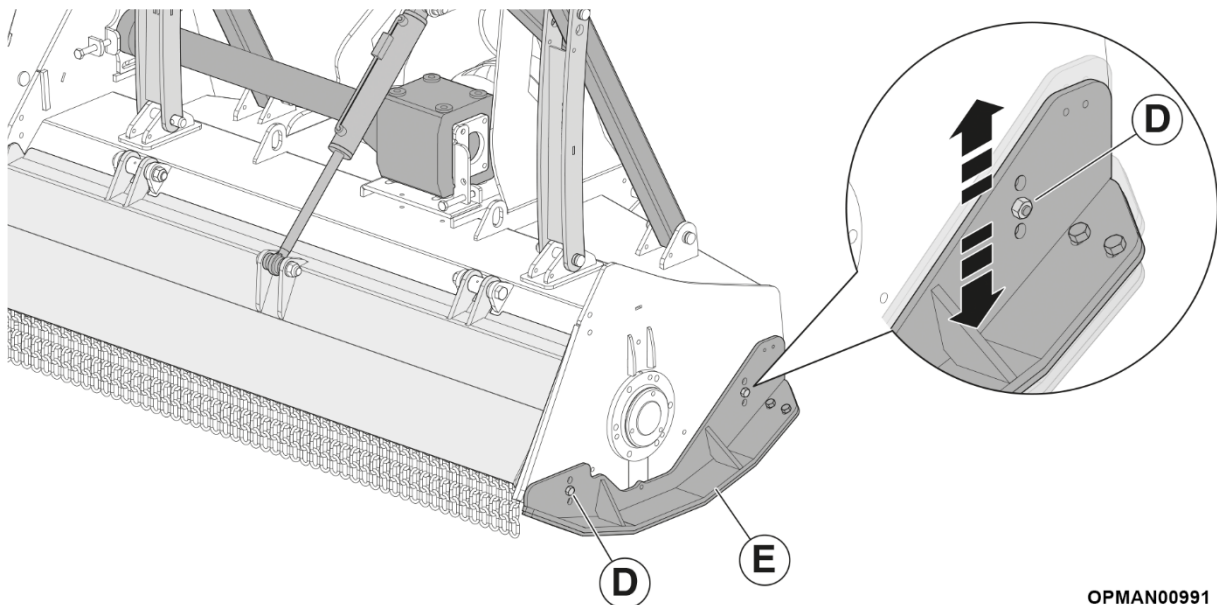

Figure 10
- 4.2.1.2 Remove the bolts (D), see Figure 10.